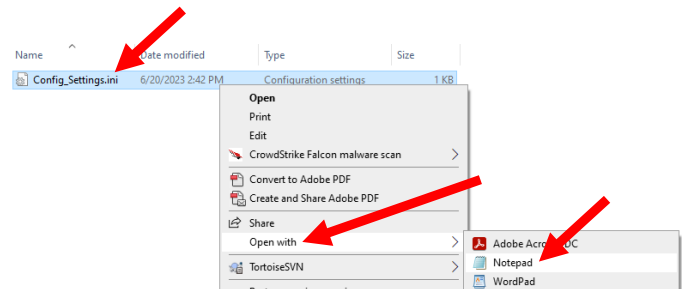

Figure 2
4. Open explorer and right click on the file named Config\_Settings.ini and open with Notepad to edit the file (see Figure 2).